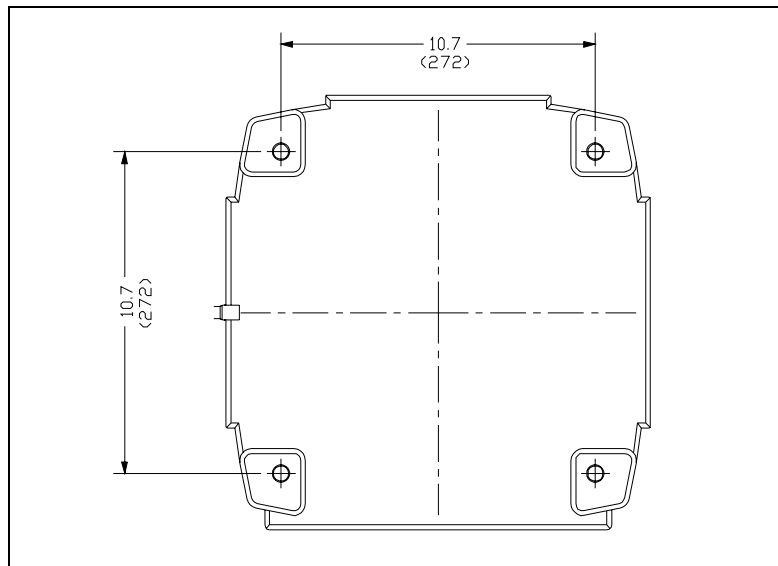

Figure 6. Shows mounting holes with dimensions.
2. To maintain the explosion-proof integrity of the enclosure, all mounting hardware is located in non-intrusive mounting holes under the front panel. The suggested mounting height of the station is 54 inches (137cm). Use standard 1/2-inch socket head cap screws or M12 bolts to secure the enclosure to a flat mounting surface. See Figure 6 below for mounting hole dimensions.